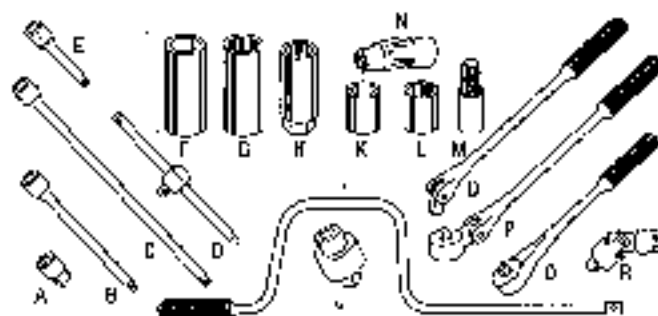

Figure 2-9: The parts of a socket wrench: adapters, ratchet handles, and extenders.
- ✓ **At least one ratchet handle, to which you can fit any of the sockets:** Most sets have two or three handles with at least one adapter. You may want to add additional adapters to extend the handle to different sizes and adapt it to different drives. Figure 2-9 shows the wide variety of sockets, handles, and adapters available.